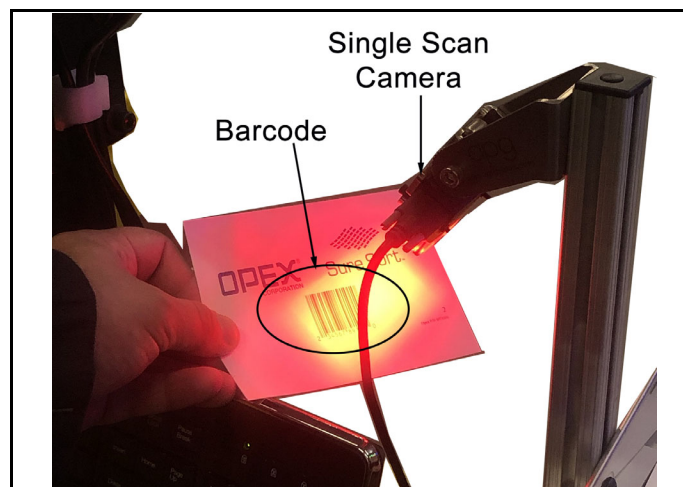

Figure 4-32: Scanning a Barcode
3. If you are using the Single Scan Camera, hold the item with the barcode facing up directly under the camera (see Figure 4-32). If you are using the Hand Scanner, place the scanner light at the center of the barcode.